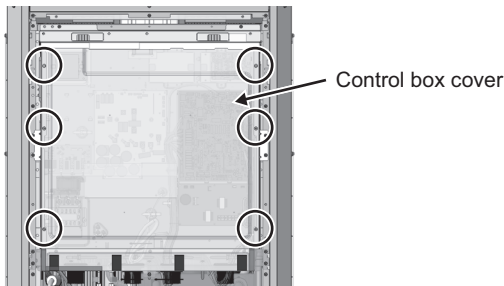

Fig. 2
(2) Remove the control box cover and the wiring connected to the unit from the control box. (Six screws: Fig. 2)